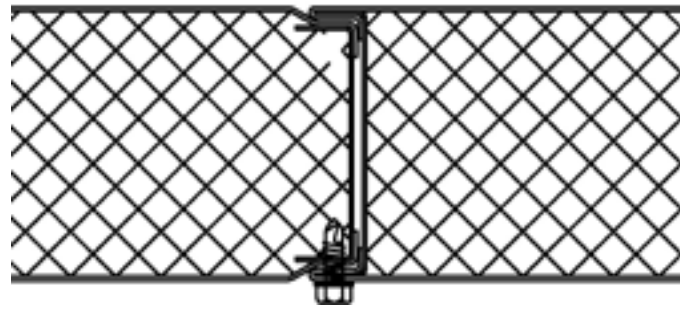

FIGURE 7
- 4) Install the first roof panel keeping the joint aligned with the mark on the inside trim. Square the panels with the walls and fasten both ends of the roof panel through the inside trim near the center line of the panel with the TEK® screws. Make certain that the male (<) and female (=) edges are properly orientated as shown on the panel layout drawings, and place the TEK® screw 12" on center through the male (<) female (=) joint. (FIGURE 7) Keep in mind that the panels must be installed with the male edge inserted into the female edge.